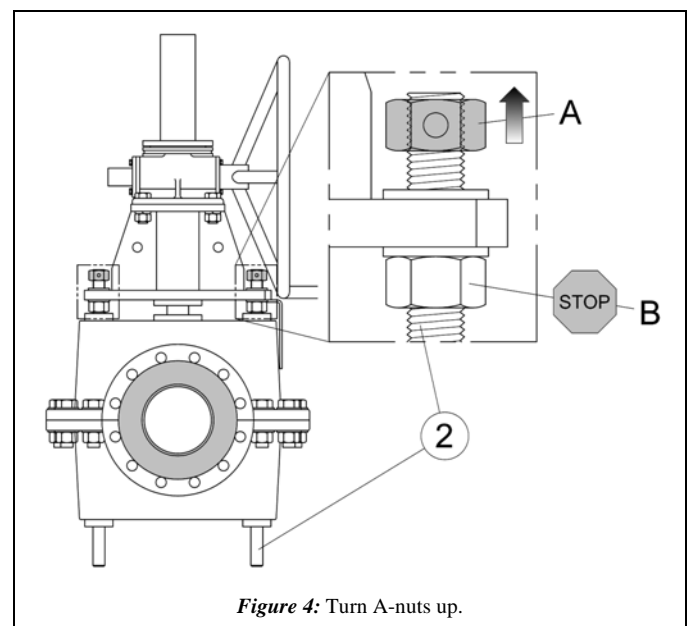

Figure 4: Turn A-nuts up.
STEP 4: Begin to actuate the RF Valve® closed and observe the gap inside. Stop closing the RF Valve® when the gap is roughly 0.13" (3mm) in size (Fig 4).
STEP 3: Now loosen each A-nut until they are flush to the ends of their respective pull bar ② (Fig. 4).